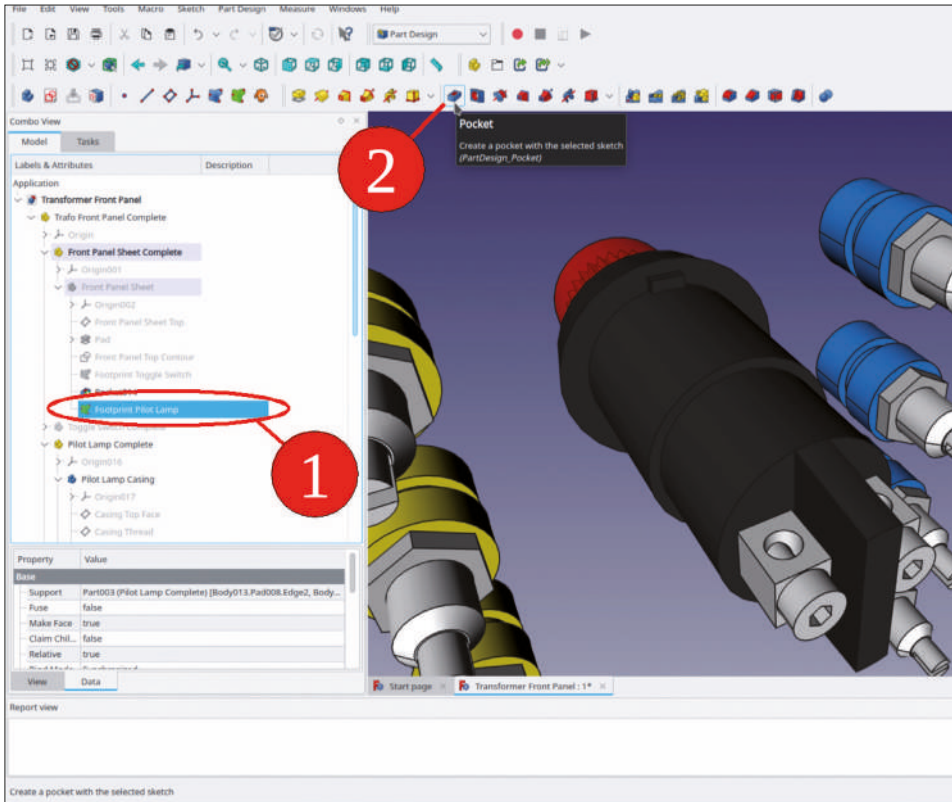

Figure 9-30
9. Scroll back to 'Front Panel Sheet' and rename the new SubShapeBinder to 'Foot-print Pilot Lamp' (Figure 9-30). Then, with the new SubShapeBinder marked in the tree view, click the 'Pocket' tool button.